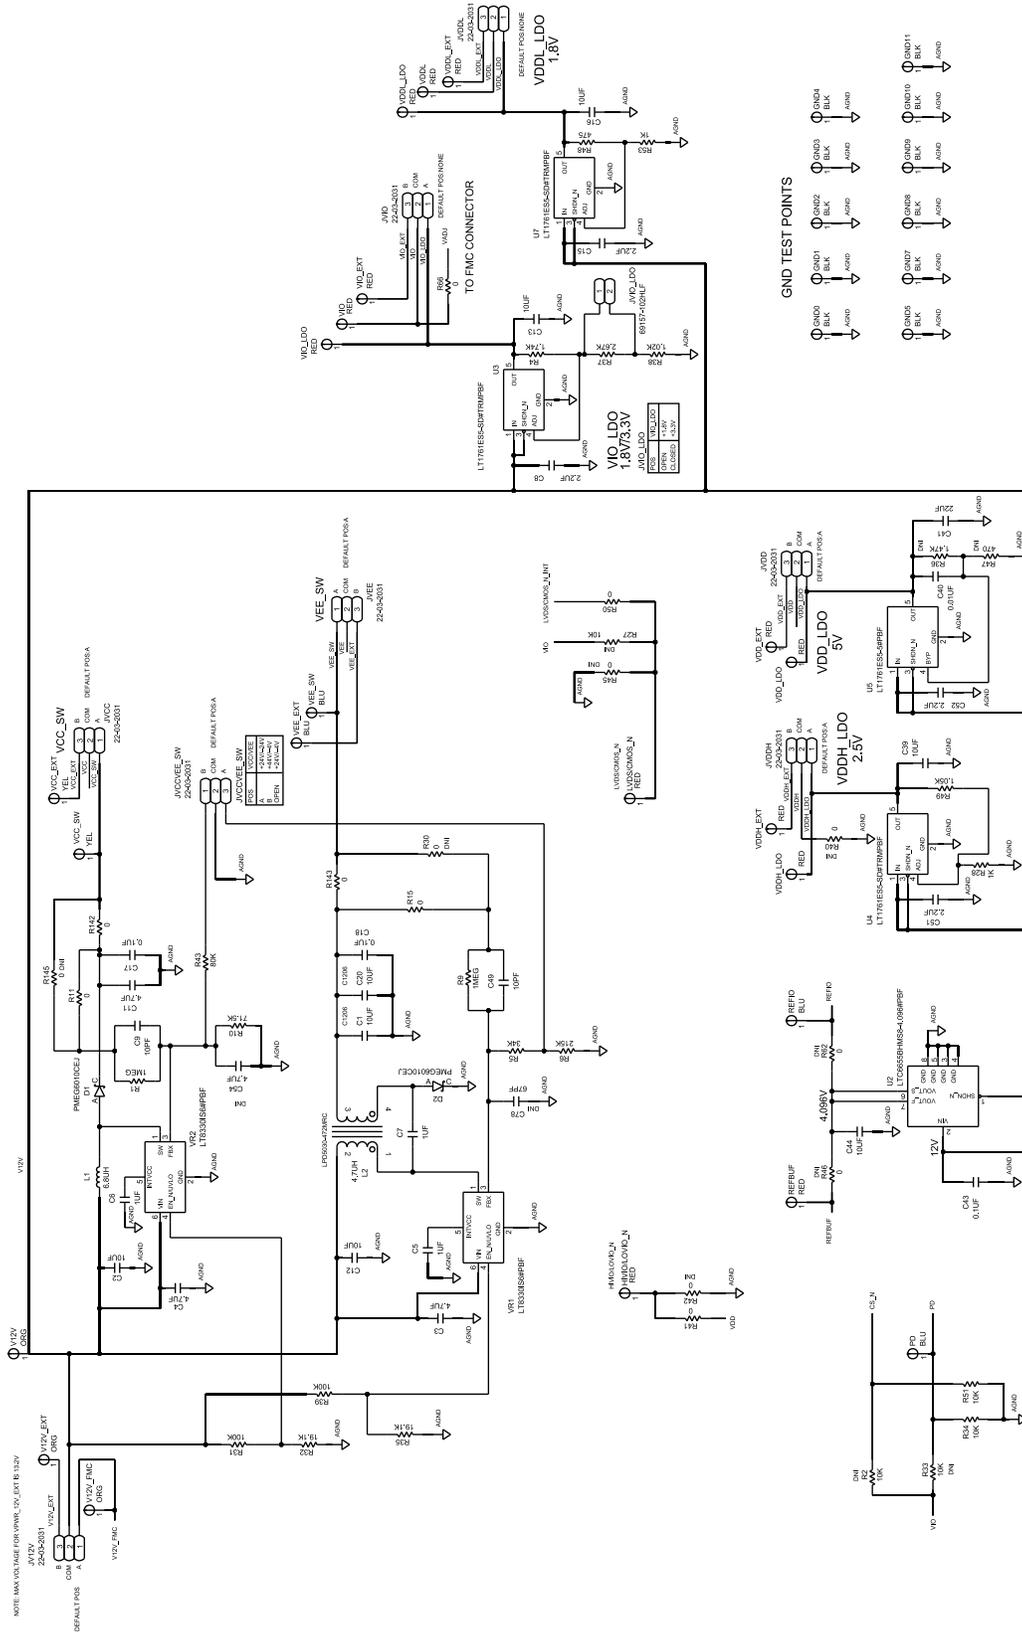

Figure 20. Power Solution Schematic
- ▶ External reference with internal buffer. For this configuration, connect the external reference to the REFIO pin and populate the resistor R62 shown in Figure 20.
- ▶ External reference with disabled internal buffer. For this configuration, connect the external reference to the REFBUF pin and populate the resistor R46 shown in Figure 20 , and also connect the REFIO test point to ground.